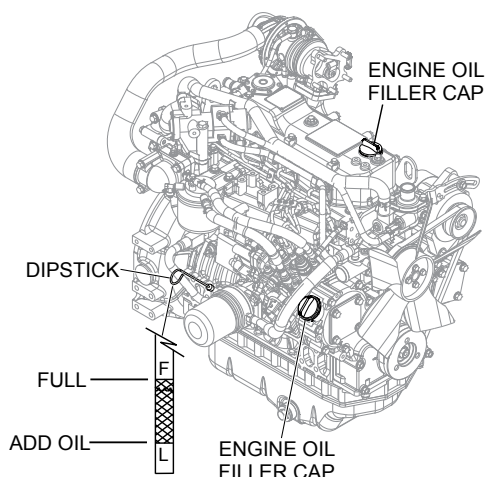

Figure 7. Engine Oil Check and Fill
2. Pull the engine oil dipstick from its holder, (Figure 7).